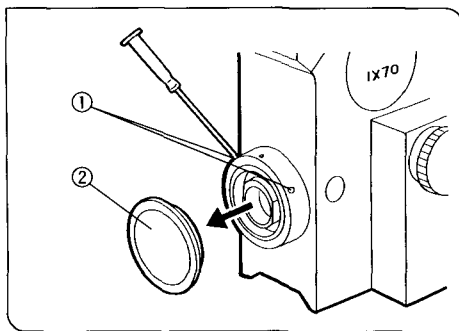

Fig. 42
## 10 Mounting 35 mm Single-lens Reflex Camera (Figs. 42- 44)
1. Using the Allen screwdriver, loosen the two OM camera adapter clamping screws ① on the SLR port. (Fig. 42)
2. Use a sharp object such as the tip of a superfine screwdriver or a mechanical pencil to remove the plastic cap ② from the SLR port.